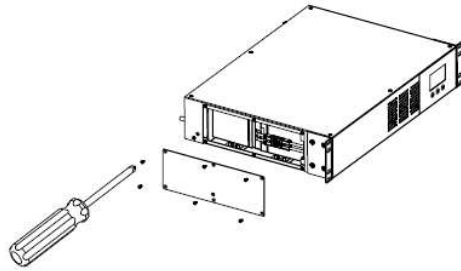

Figure 6
2. Remove the six anchor screws holding the battery door on the left hand side of the UPS. Pull the panel off and set it aside (**FIG. 6**).